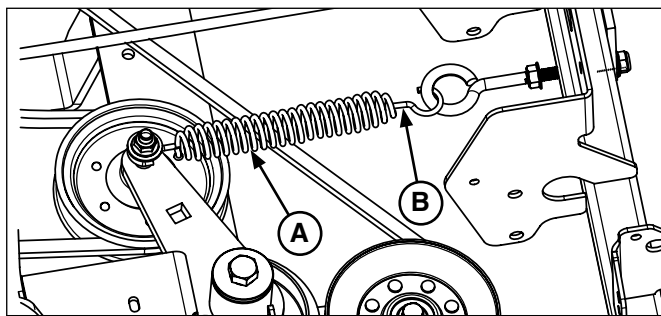

Figure 1. Old Style Drive Tensioning Spring (Replace)
- If the spring (**A**, **Figure 1**) has a short forward hook (**B**) proceed to **Correction Procedure**;